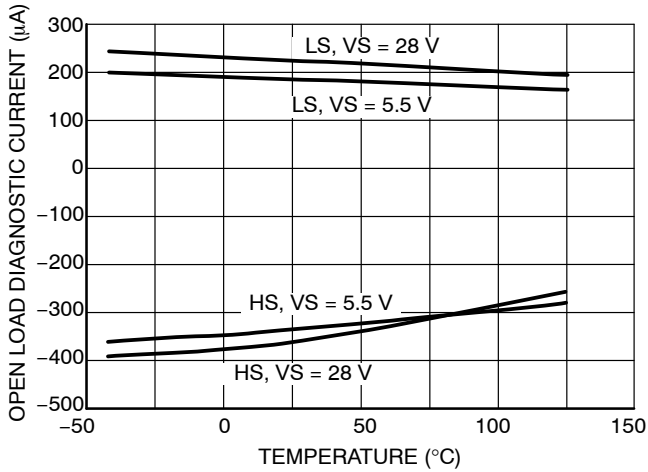

Figure 18. Open Load Detect Current vs. Temperature
- Refer to Figures 18 and 19 for open load diagnostic current behavior.